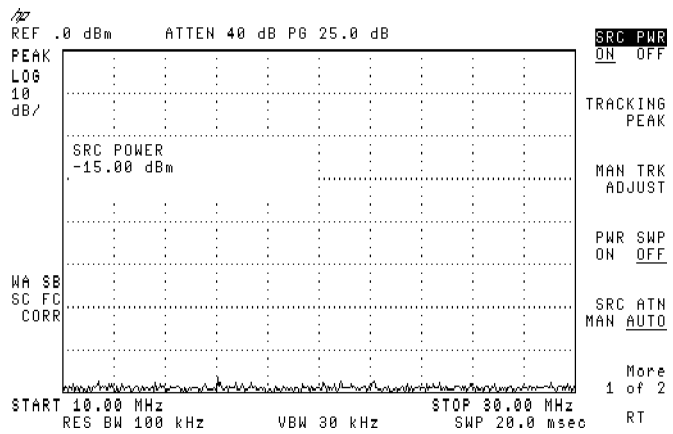

Figure 3-14. Turning On the Tracking Generator (HP 8591E)
10. Press 15 and **(- dBm)**. The tracking generator is now turned on. Notice that the **SCR PWR** softkey has toggled to ON. See Figure 3-14.